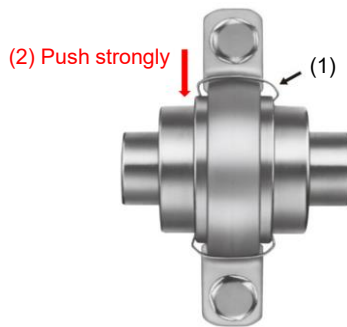
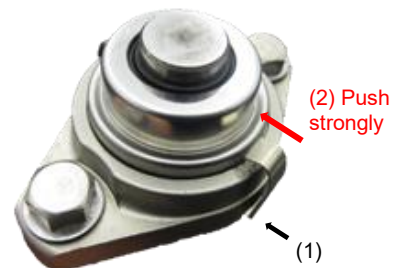

Fig. 5.2
Fig. 5.3
- Pillow block (Fig. 5.2)
- (1) Hook the claw on one side of the clip into the groove on one side of the cover.
- (2) Push the claw on the other side of the clip strongly into the cover groove on the opposite side.
- Rhombic flange (Fig. 5.3)
- (1) Hook the L-shaped claw of the clip onto the clip seat of the bearing housing.
- (2) Push the other claw strongly into the cover groove.